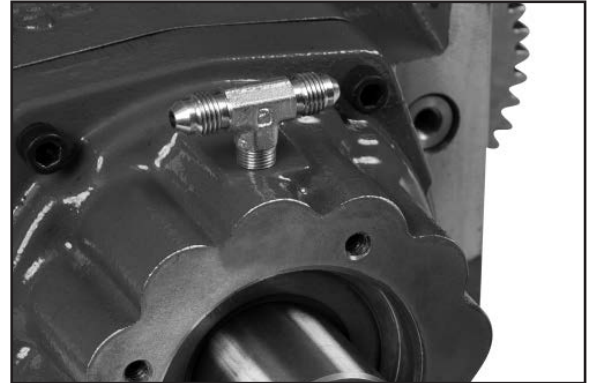

Figure 13
2. If unit has a Wet Spline output option, install tee fitting (379627) into output bearing cap (**Fig. 13**).